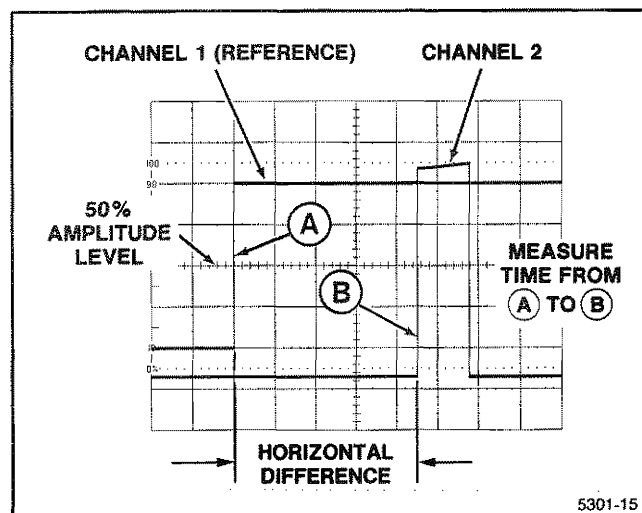

Figure 6-7. Time difference between two time-related pulses.
8. Set the SEC/DIV switch to a sweep speed which provides three or more divisions of horizontal separation between the reference points on the two displays. Center each of the displays vertically (see Figure 6-7).